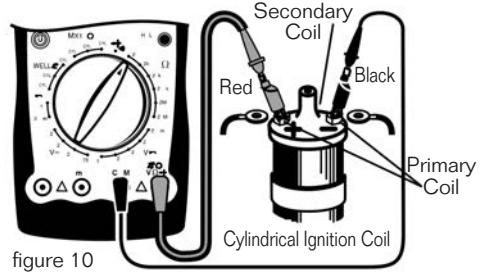

figure 10
- (1) Before the operation, cool the engine and cut off the ignition coil.
- (2) Set the rotary switch of the meter to the 200 Ω . As prompted at the LCD connect terminal, insert the red test lead into the Ω terminal and the black one into the COM terminal. Test the primary coil of the ignition coil.
- (3) Short circuit the red and black test lead probes. Their short circuit resistance should be less than 0.5 Ω . If it is more, check the test lead to see if it is loose or damaged. If it is damaged, replace it with a new one.
- (4) Connect the red test lead probe to the primary "+" pole of the ignition coil and the black one to the primary "-" pole of the coil. (see figure 10.) See the detailed positions in various kinds of automotive manuals.